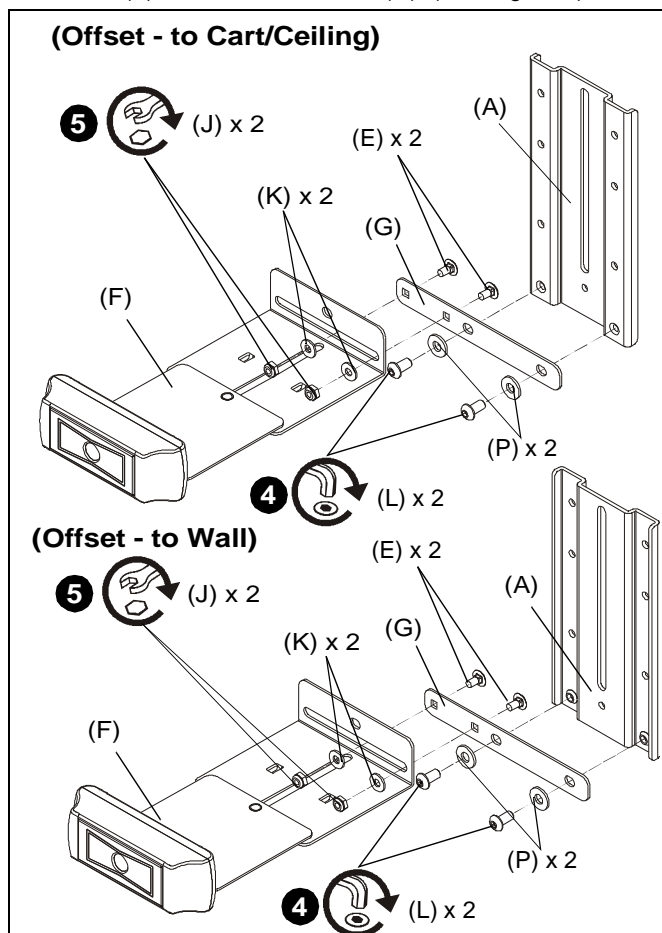

Figure 4
4. **(Offset)** Use two 1/4-20 x 1/2" button head cap screws (L) and two large washers (P) to secure horizontal bracket (G) to upright bracket (A). (See Figure 4)
5. **(Offset)** Use two #10-24 lock nuts (J), two small washers (K) and two round head carriage bolts (E) to secure camera mount (F) to horizontal bracket (G). (See Figure 4)